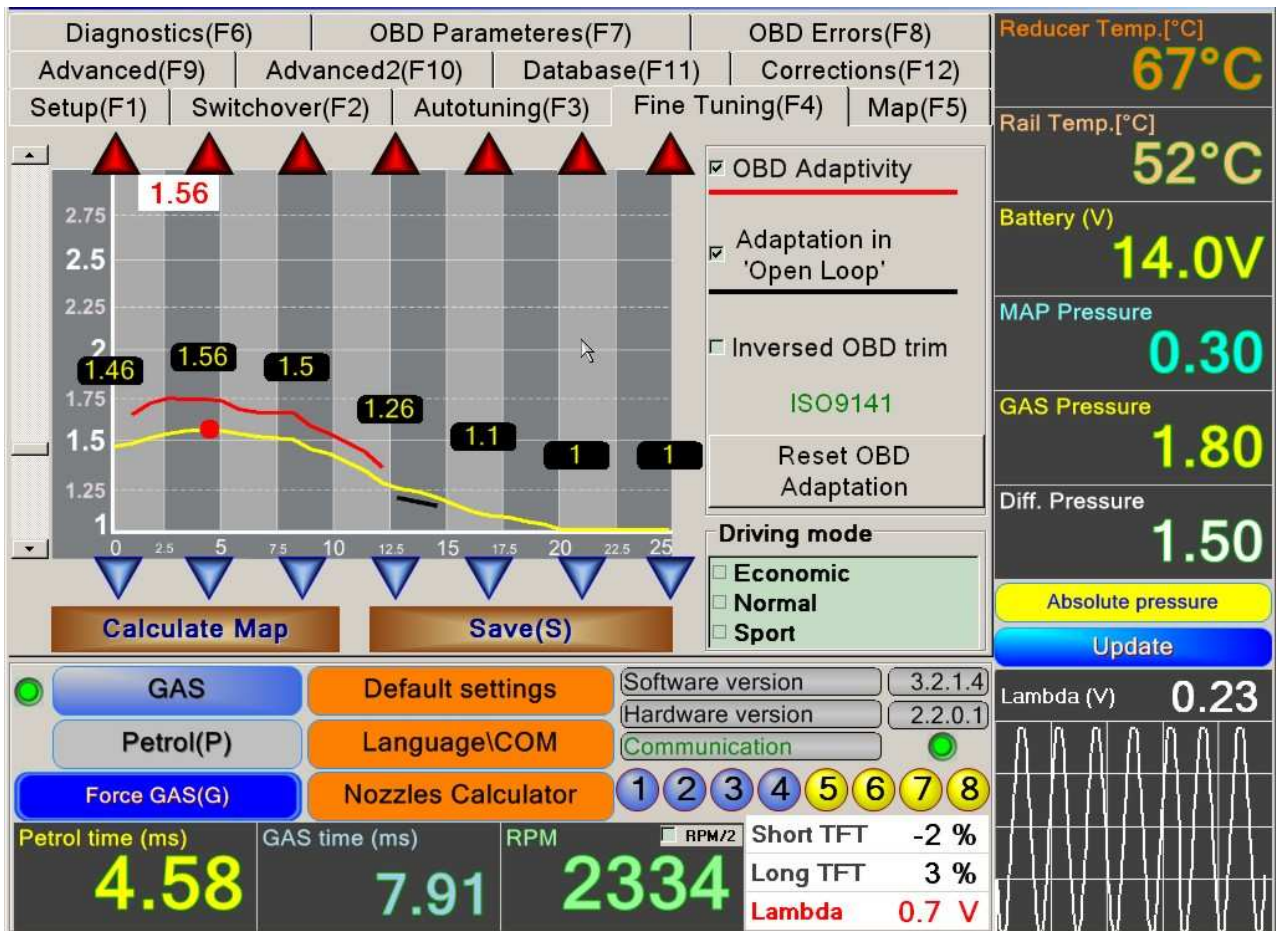

FIG.7
11. MENU "FINE TUNING" – (F4) – FIG.7
The real sign for improper sequence of the cylinder arrangement you can find when switch-over LPG/Petrol or vice versa in case the petrol injector times in "Petrol" mode and in LPG mode are equal. You can adjust this equality by using the arrows near in the "FINE TUNING" (FIG.7) menu, waiting near 10 seconds and switching over a few times Petrol/LPG. If after this procedure the engine is still shaking for a second when switchover the fuels you must check the sequence of the LPG injectors. Rarely the mistake could be from the hoses row to intake manifold, it is easy to correct by rearranging the connectors on the LPG rail.
From left to chart is added slider, which is carried out by moving the entire schedule all coefficients vertically. Activate slider by double click on the chart. (Fig.7)
From the "FINE TUNING" (FIG.7) menu use the checkbox labeled "Normal". On the screen you see coefficients; the working in each moment is colored in RED point. Ensure permanent load, RPM and throttle position (gas pedal) switch-over from "Petrol" to "LPG" and if the petrol injector times are changing, correct the colored in blue coefficient simultaneously with switching over. If the petrol time when turn over from "Petrol" to "LPG" is increased you have to increase the coefficient and vice versa till you reach the equality of these petrol times. It is recommended to use this procedure for more load conditions of the engine (at least 6-10). If you didn't manage to cover all driving modes using the arrows adjust all uncalculated coefficients near to the calculated ones. Looking over the curve, you'll try to make this curve smoother.
12. SELFADAPTIVITY /FIG.7/ On the screen 'Fine tuning' you could choose by signing the check box OBD algorithm, which allow you to adjust the gas system permanently on gas during all the driving time. The only thing you have to do in this case is to install the nozzles with proper size. After this the ECU will use factory set coefficients, modifying them all the time in all driving modes, storing them into the memory. After switching off and switching on again you could see with yellow line factory set koeff.(or the curve after manual adjustment or auto tuning). With red line you'll see the curve of the koeff. which gas ECU use, to keep the Short term fuel trimmer(STFT) close to 0%. Then you could readjust the yellow curve max. closed to the red one. This way if on some reason OBD connection is interrupted, the system will run properly adjusted. On the screen is also seen check box 'Adaptivity in Open loop', which allow you to see what have to be coeff. when the petrol ECU stop to read the O2 sensor and run using internal tables with petrol times vs. RPM and other parameters. It is usually happens over 4000 RPM and TPS more than 50%. If this check box is switched on and you drive in that mode, when close the software and open it again, it could be seen black curve, which give you information how you could adjust coeff. at high load.